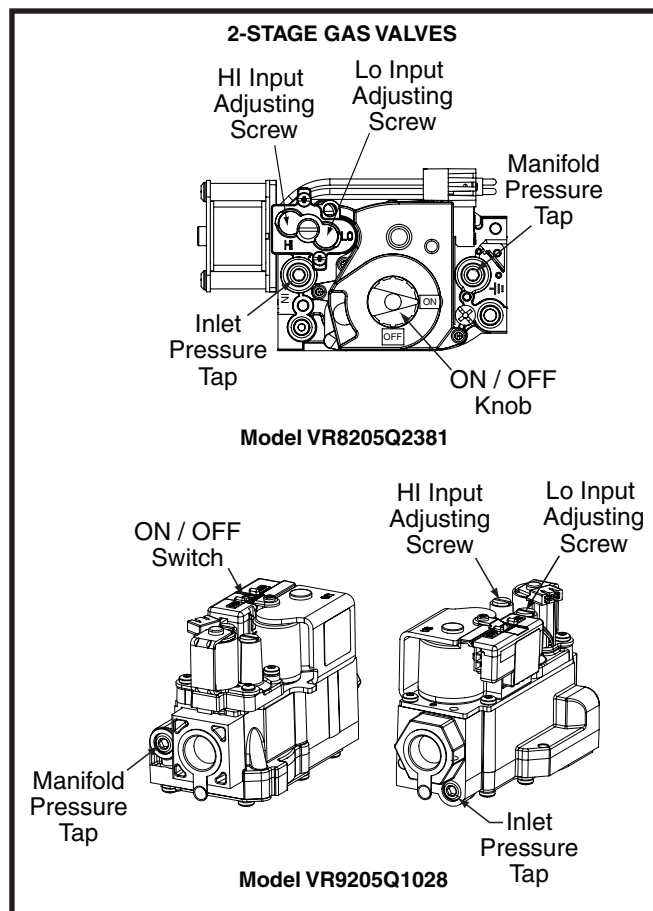

Figure 27. HI & LO Input Adjusting Screws
- c. Using an Allen wrench, turn the the LO Input Adjusting Screw on the LO side of the regulator to adjust the reduced input setting or turn the HI Input Adjusting Screw on the side of the regulator to adjust the full input setting. See Figure 27.